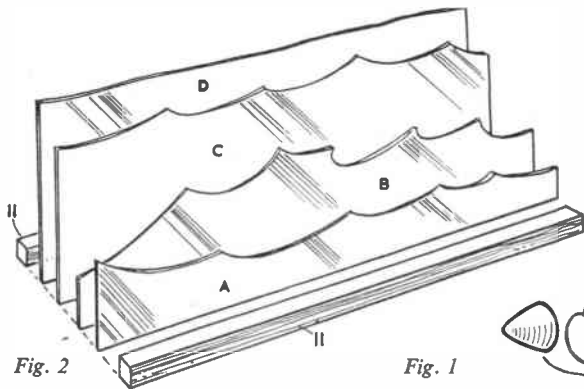

Fig. 2
To give an underwater effect, the submarine will be located behind an 'aqua-window'. This is made up from four sections of transparent acetate sheeting, pieces A, B, C and D. These are cut to the shapes and sizes shown on the design sheet, where an indication of colouring is also given. The prototype was finished in Humbrol matt paint. These four pieces of acetate sheeting are pinned together between the two strips (11) in the order shown in Fig. 2.
You should attempt to reach the bottom with your hands (Fig. 2), and glide along it before rising to the surface. The whole movement must be practised until you are able to do so. As with all underwater work, your eyes should be kept open.